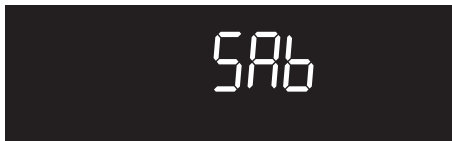

Figure 17: Oven set for Sabbath baking
5. Press and hold the **Bake Time** key and **Set Clock** key simultaneously for about 3 seconds. **SAb** will appear in the display indicating the oven is properly set for the Sabbath feature (Figure 17).